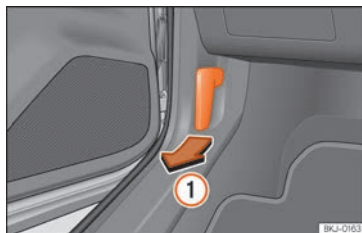

Fig. 178 Release lever in the driver's footwell area.
- Open the door and pull the lever that is underneath the instrument panel »»» **Fig. 178 ①**.